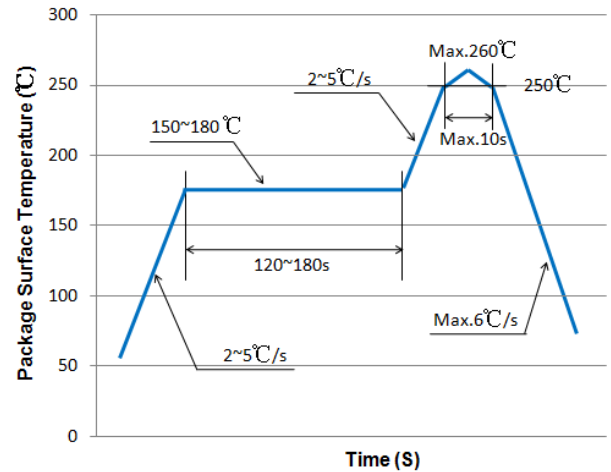

Figure 6: Recommended solder reflow profile
2. Recommended reflow profile for Pb free process is shown in Figure 6. The time duration of peak temperature (260°C) should be limited to 10 seconds.